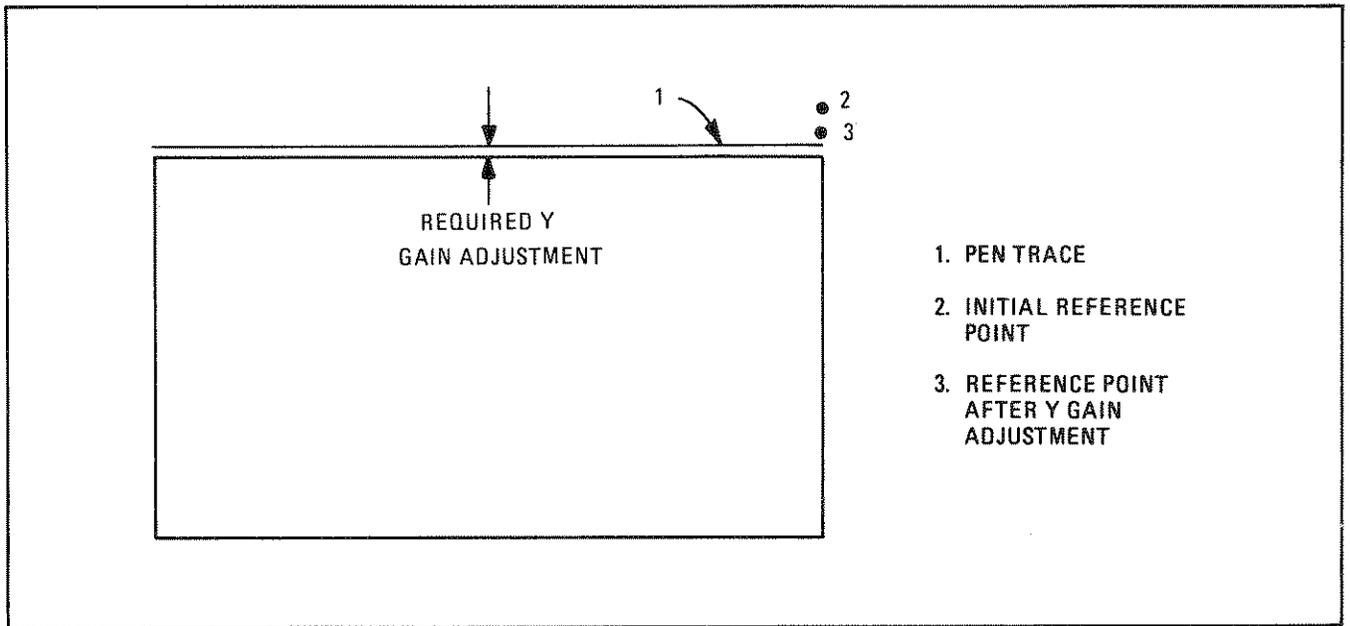

Figure 3-39. Recorder Y Axis Gain Adjustment
- m. Adjust the recorder Y gain so that the upper right reference point is just above the top edge of the graph paper. (This reference point corresponds to the "Initial Reference Point" indicated in Figure 3-39.)
- p. Adjust the recorder Y gain to place the pen trace on the top line of the graph paper. This can be done during the plot directly, or after the plot by comparing the plotted trace with the reference point and compensating for the difference (see Figure 3-39).